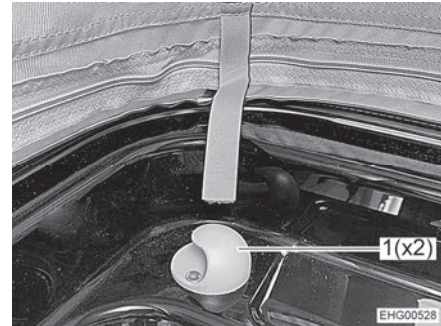

Fig. 93 Holder
- Attach the safety net to the two holders (Fig. 93,1).